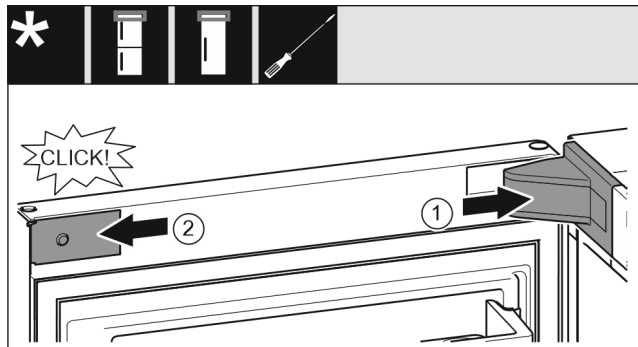

Fig. 19
- ▶ Position the bearing bracket and latch it in place. If necessary push it apart carefully. Fig. 19 (1)
- ▶ Position the panel on the side and latch into place. Fig. 19 (2)